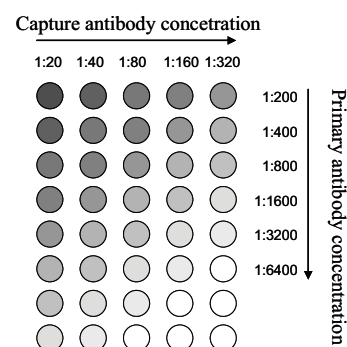

Fig.4 Titration method
- The optimal concentrations of the capture and primary antibodies can be determined according to the titration method (Fig. 4).